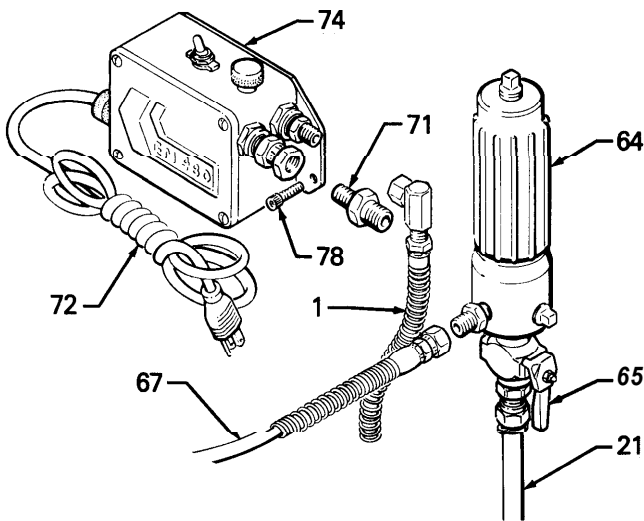
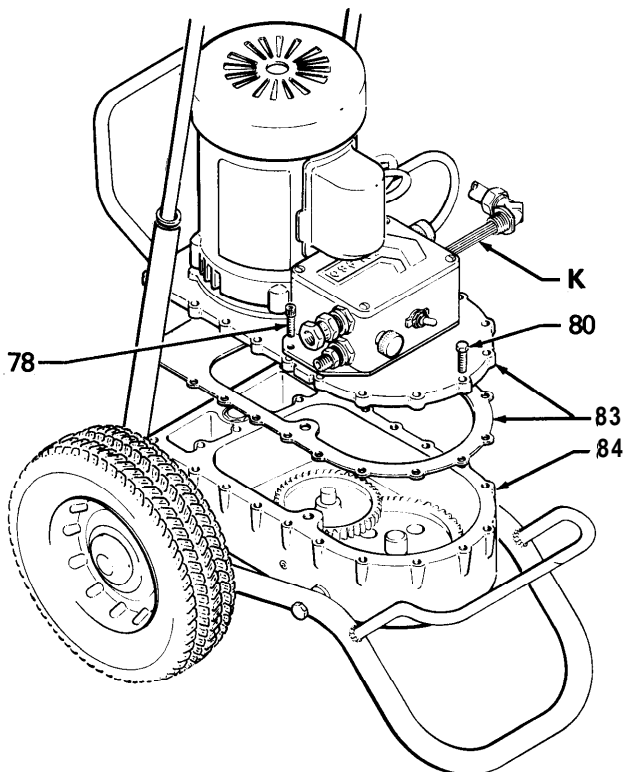

Fig 8
Fig 9
Disconnect hoses (1, 20) from the displacement pump (33). Disconnect the hose (1) from the pressure control (74). Disconnect hoses (21, 67) from the fluid filter (64). See Fig 8. Disconnect the conduit and wires (K) from the motor. See Fig 9.
Remove the fluid pump from the gearcase. See Displacement Pump Service on page (7). Remove the four cap screws (87) along the bottom of the pump side of the gearcase. Tip the sprayer forward onto the frame handle so the gearcase is in a horizontal position. See Fig 9. The gearcase must be kept horizontal as the cover is removed to avoid spilling the gearcase oil.
Remove the three cap screws (78) holding the pressure control to the gearcase cover, and remove the control. Remove the remaining cap screws from the gearcase cover. Then carefully lift the motor and cover assembly straight up, off the gearcase. See Fig 9.